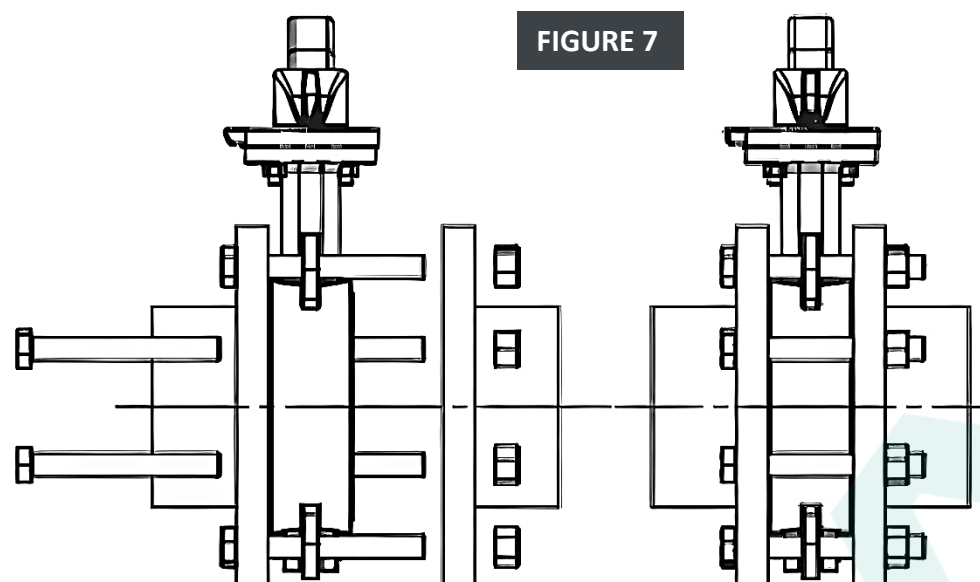

FIGURE 7
7. Bolting Procedure : Tighten the bolts crosswise and progressively to evenly distribute pressure before the valve body and flanges come into contact with each other (**Refer to Figure 7**).